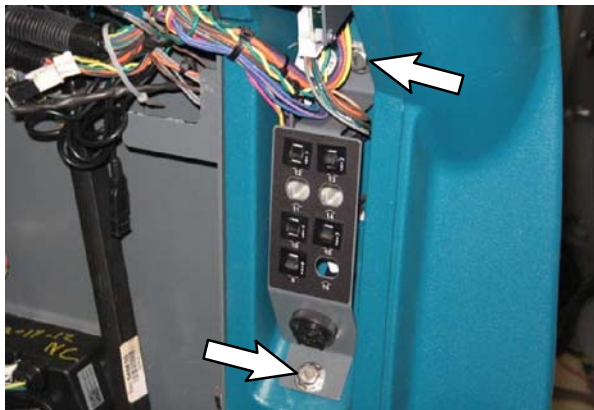

FIG. 9
32. Remove the M8 hex screw securing the bottom of the circuit breaker bracket to the machine. (Fig. 9)
33. Loosen the M8 hex screw securing the top of the circuit breaker bracket to the machine. (Fig. 9)
34. Pull circuit breaker bracket out far enough to access the main wire harness connector located behind the bracket. (Fig. 9)
37. Reinstall the M8 hex screw removed from the bottom of the circuit breaker bracket and tighten the M8 hex screw at the top of the circuit breaker bracket. (Fig. 9)